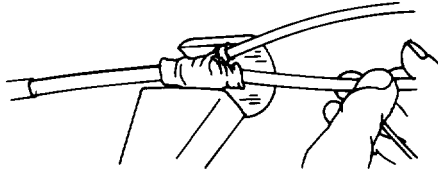

Figure 26. MG-2 Reflector
- b. MG-2. Used for heating solder termination sleeves, molded parts, and shrinking large-diameter tubing. Used for surrounding heat-shrinkable tubing and molded parts with lower-temperature air, and has to be ordered separately (Figure 26).